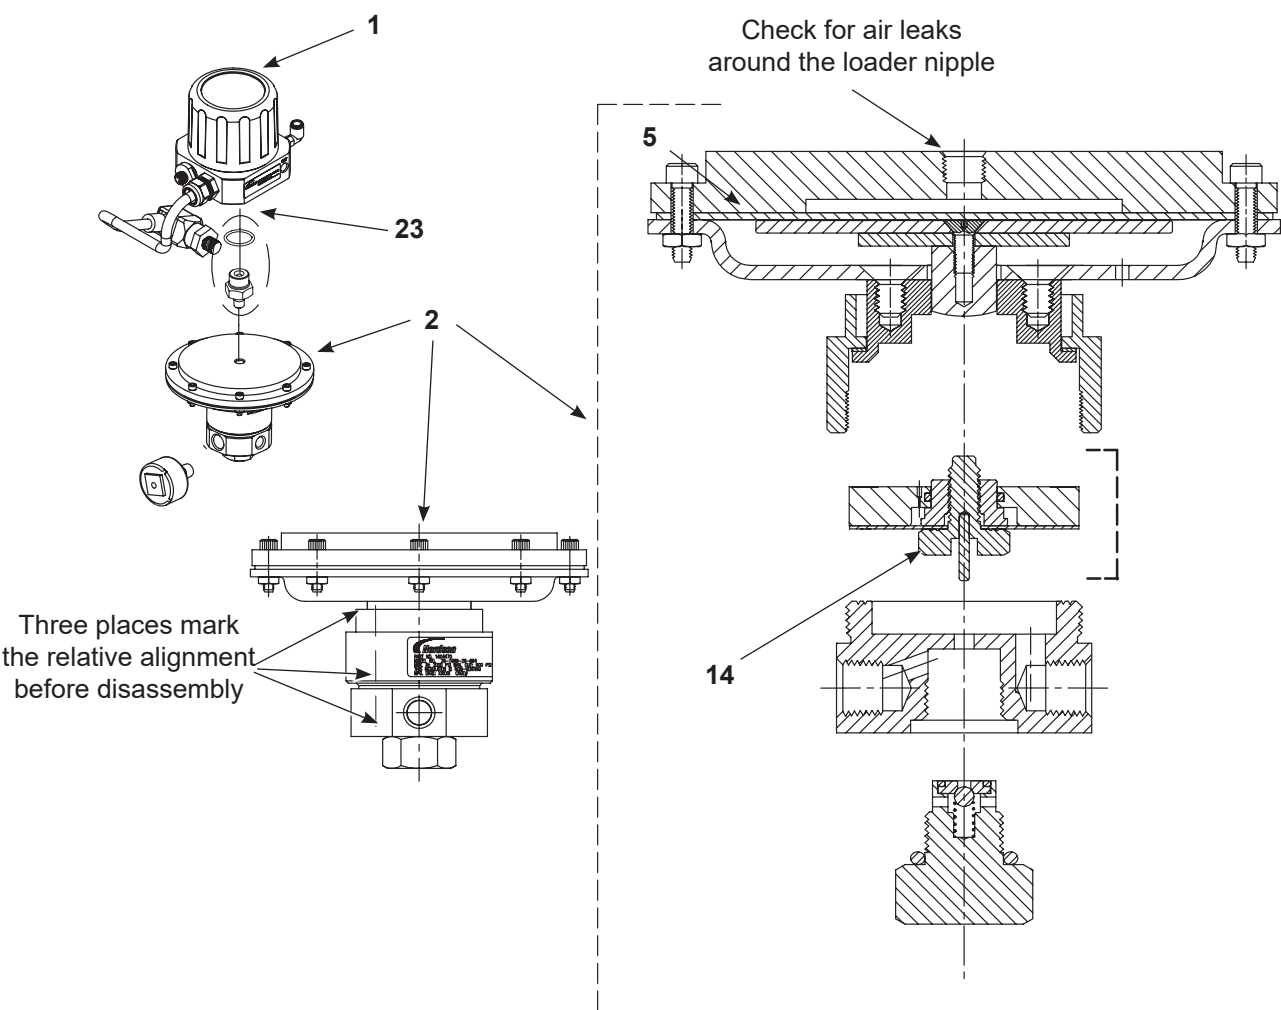

Figure 7 Pressure Regulator
See Figure 7.
B. See Figure 7 on page 18.